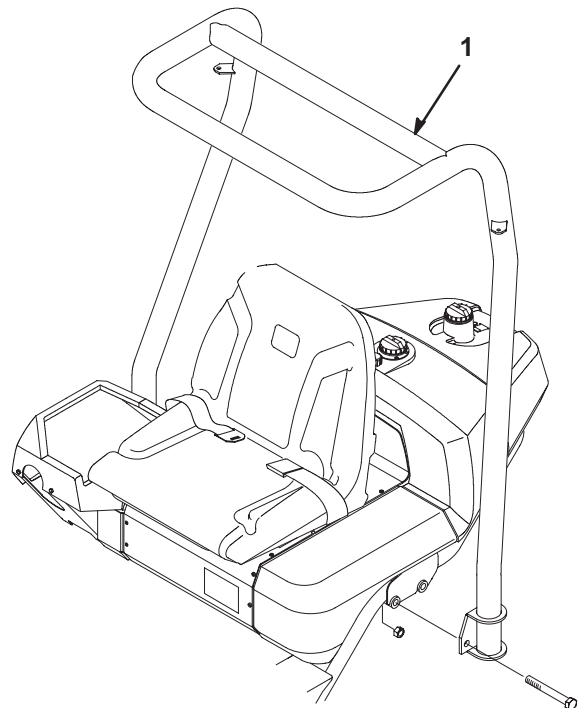

Figure 2
1. Lower the ROPS frame onto the mounting brackets, aligning the mounting holes as shown in Figure 2.
2. Secure each side of the roll bar to the mounting brackets with 2 bolts (5/8 x 4-1/2 in.) and locknuts (Fig. 2). Torque the fasteners to 135–165 ft.-lb. (183–224 N·m).